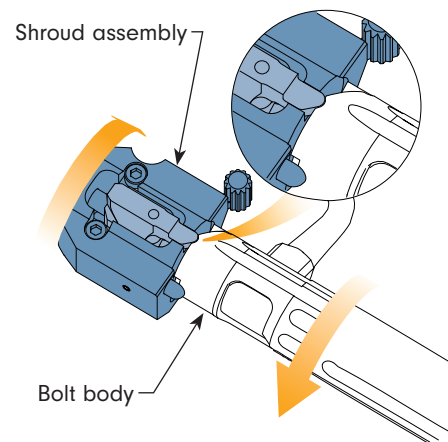

Fig 3-4
- When the firing pin spring is compressed, rotate the shroud assembly until the location pin engages with the bolt body just before the fire position (see Fig 3-4).